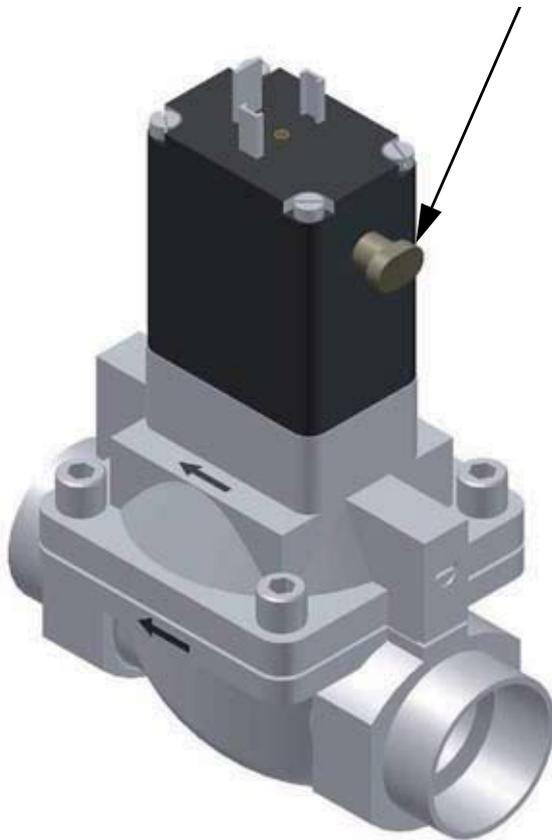

Figure 18-1: Solenoid valve
- Manual soft water operation by turning the small grey lever on the valve directly (→ Fig. 18-1)